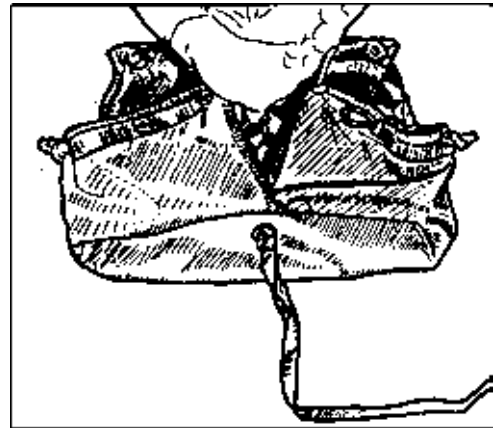

Figure 1
Step 6 Next attach the main bag to the canopy as follows (*Figure 1*):